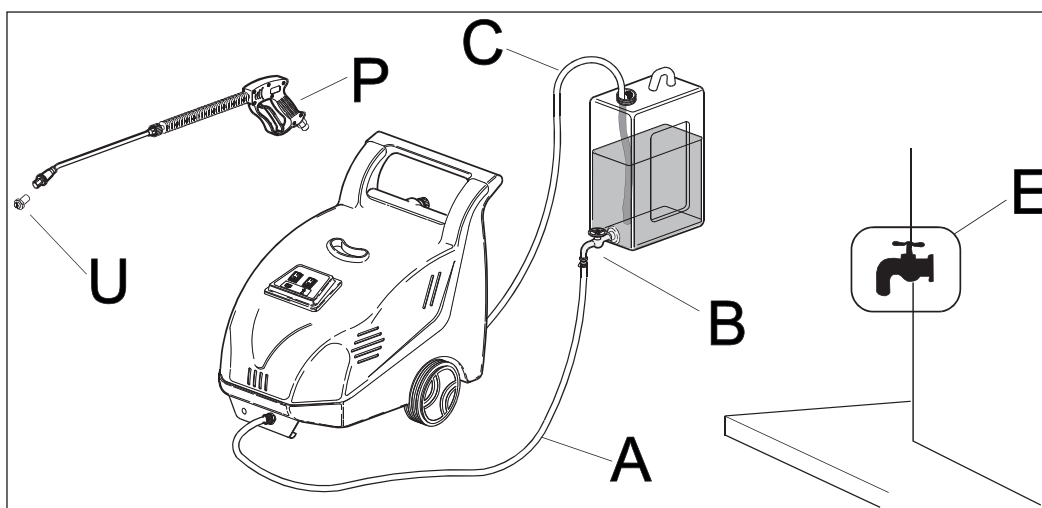

Fig.13
- Connect the suction water hose A to the container faucet B. (See fig.13).
- Finishing the cleaning phase, disassemble the hose A from the faucet B and connect it at the water system E. (See fig.13).
- Remove the end of the high-pressure hose C from the container and connect it to the gun P. (See fig.13).